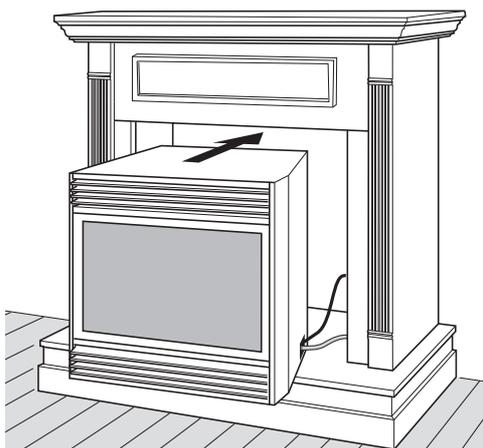

Figure 12 - Inserting Fireplace Into Cabinet Mantel
1. Frame in rough opening. Use dimensions shown in **Figure 13** for the rough opening. If installing in a corner, use dimensions shown in **Figure 14, Figure 12**, for the rough opening.